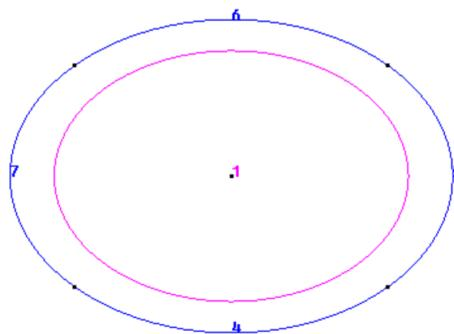

Figure 8: In pink, surface representing the base of the cylinder
- Use **View|Label|All In**, and in the drop-down menu, select the surface (third item from the top) in order to label the newly created surface representing the base of the cylinder (Figure 8). Note that the base is labeled as surface number 1.